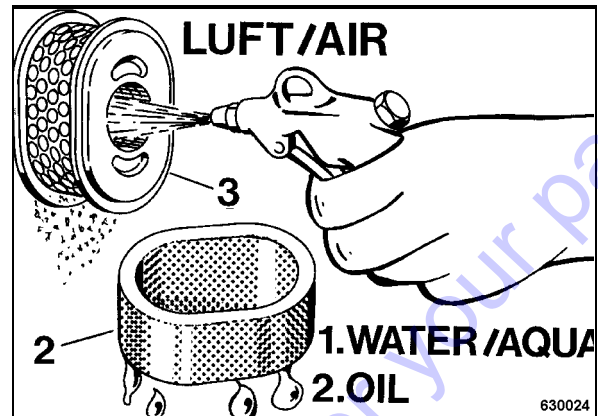

Fig. 30
- Blow the paper insert 3 (Fig. 30) carefully out from inside to outside with dry, clean compressed air.
- Clean the foam insert (2) in warm soapy water, rinse it and let it dry thoroughly.
- Pull the foam insert (2) over the paper insert (3).